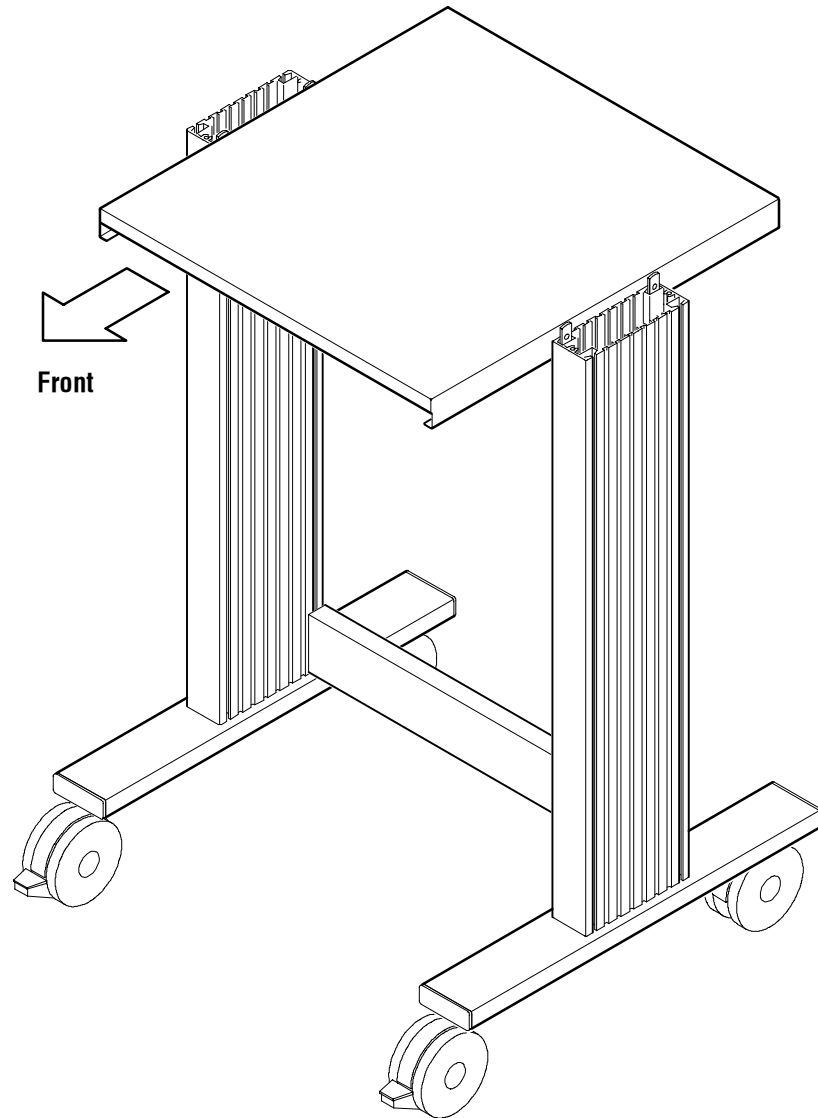

Figure 7: Aligning the Drawer Shelf
2. Position the drawer shelf horizontally between the leg assemblies, as shown in Figure 7. Position the shelf so the open edge is to the front of the cart.